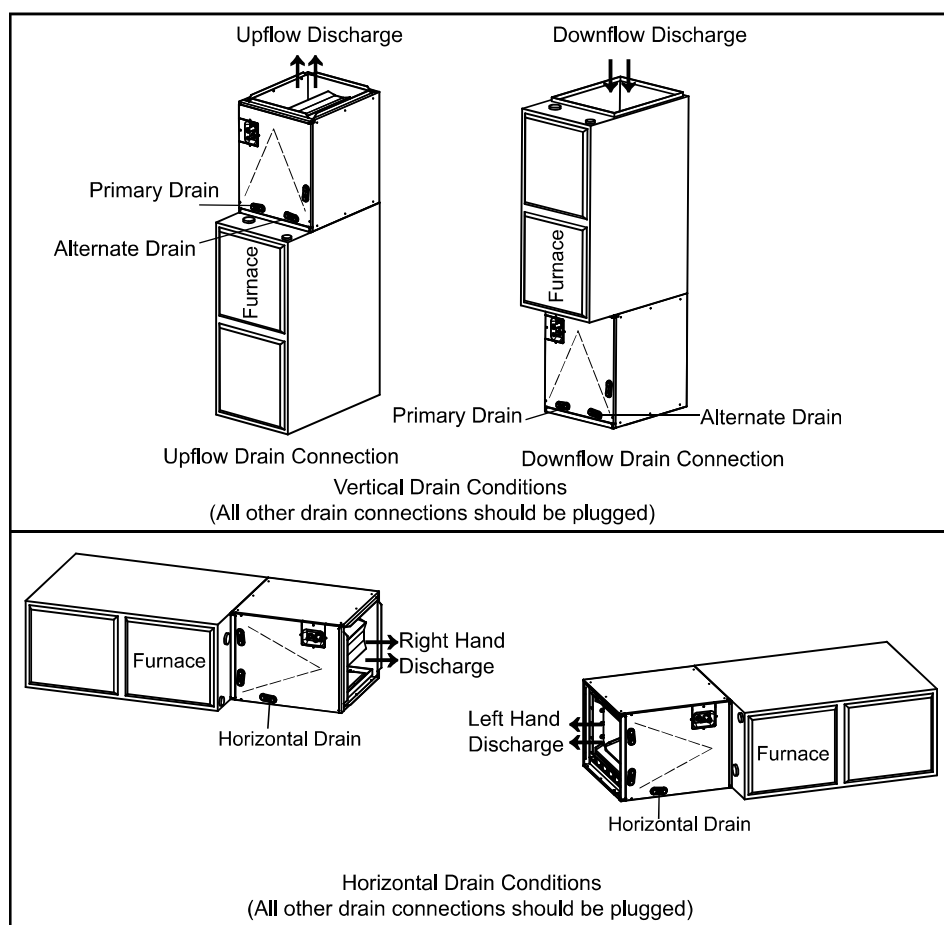

Fig.4 INSTALLATION OF CASSED COIL
The coil can be positioned for bottom return air in the upflow and horizontal right applications. It must be positioned for top return when in downflow and horizontal left applications. See figure 4. For furnace applications, the coil must be installed downstream (in the air outlet) of the furnace.
1. See Fig.4 for coil installation and drain connection.
- C. Ensure that the coil is leveled well and seal the gap between coil and furnace. See Figure 4. In case that coil and furnace sizes are not matched, use proper size of sheet metal or other material to fill the gap and seal the gap to prevent air leak ;